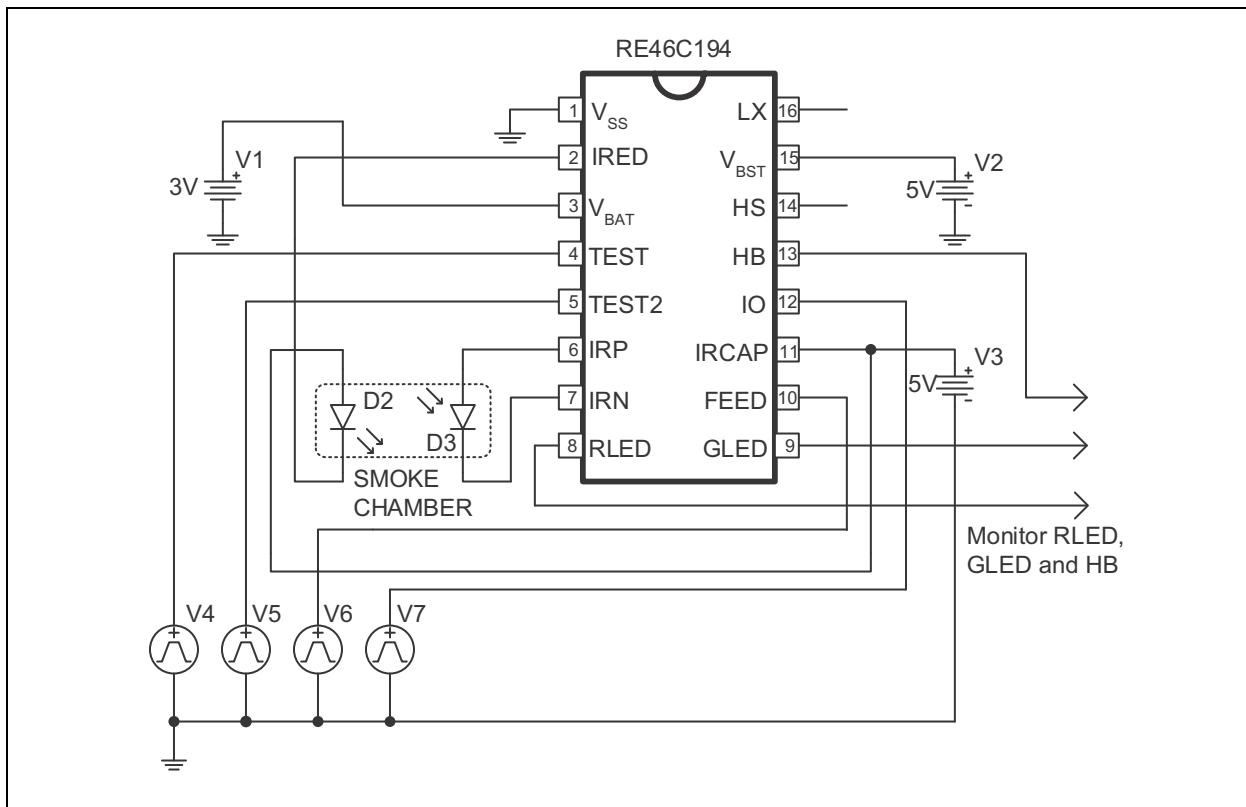
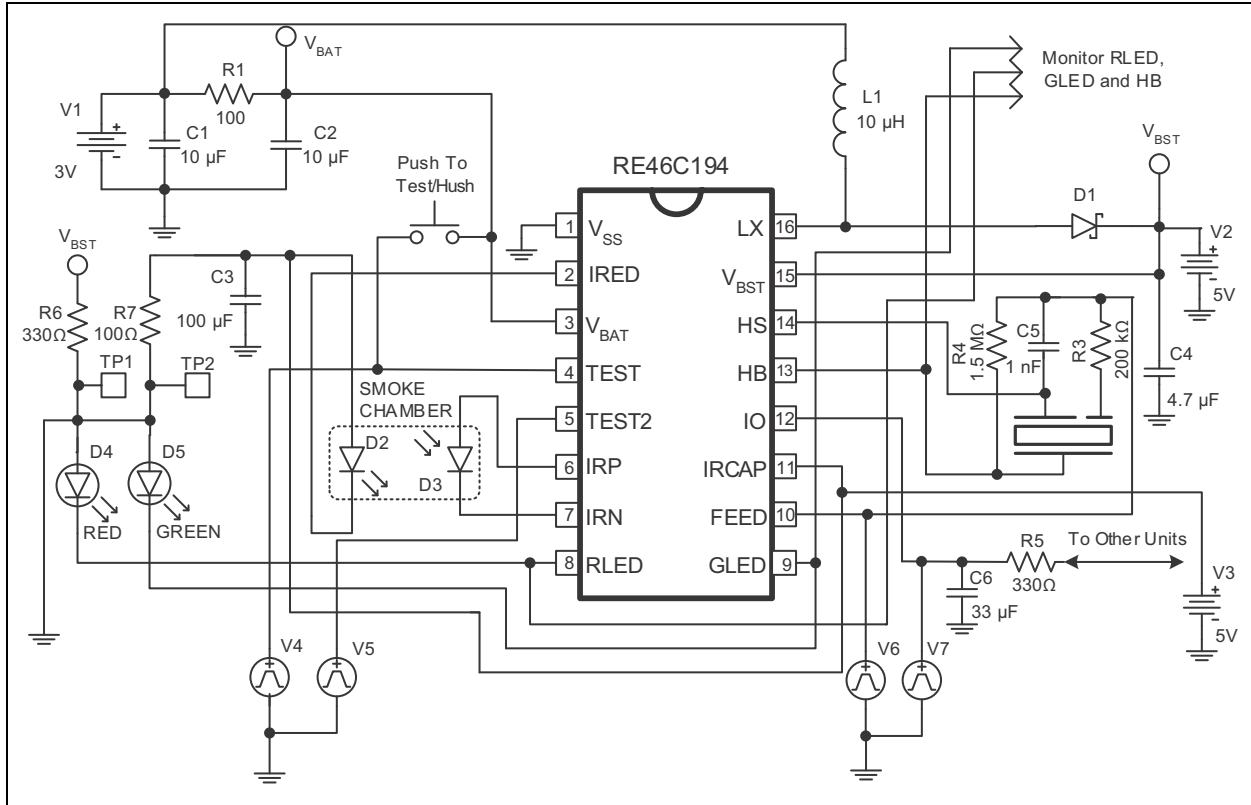

FIGURE 4-3: Nominal Application Circuit for Programming RE46C194.
FIGURE 4-5: Circuit for Programming in the Typical Application.
1. Power up with bias conditions as shown in Figure 4-3 or Figure 4-5.
1. Power up with the bias conditions shown in Figure 4-3 or Figure 4-5. V_{BST} should be connected to 5V through a diode, so V_{BST} can enter high boost operation.
1. Power up with the bias conditions shown in Figure 4-3 or Figure 4-5.